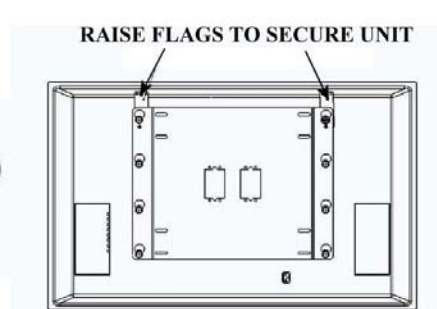

Figure 4
5. With the aid of another person, lift the plasma display up to the mount. Align the mounting buttons on the plasma with the teardrop slots on the mount and set the plasma into place (Figure 4).